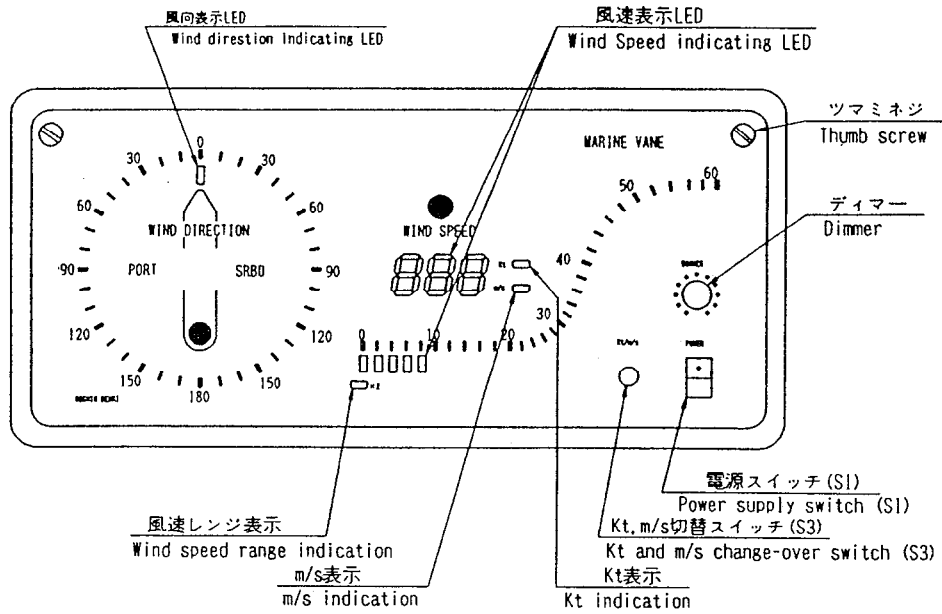

図1・1.Fig
1) Kt and m/s change-over switch (Refer to Fig.1 of S₃.)
The 7-segment LED indicates, as shown in Fig.1 value within the range of 0-60.0m/s or within the range of 0-120Kt according to the rotation of a wind direction & speed transmitter propeller.
Namely, when wind speed exceeds 60Kt, the LED “ 0 ” of $\times 2$ is lit as shown in Fig.1 and simultaneously, the number of cylindrically arranged LEDs to be lit decreases with the shifting of the range.